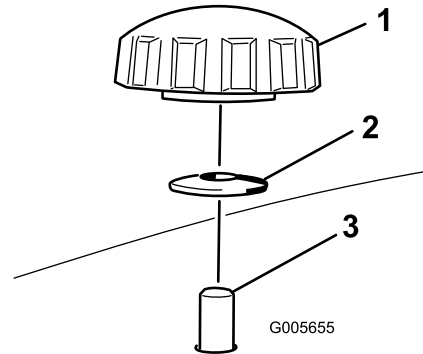
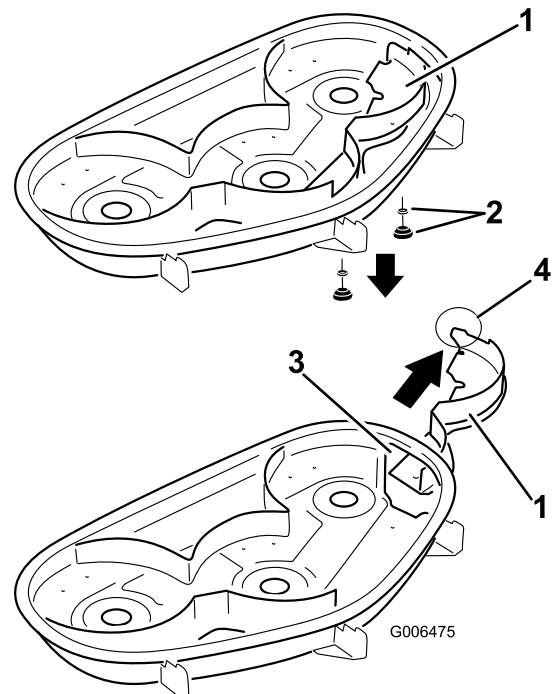

Figure 24
Figure 25
4. Remove the 2 knobs and curved washers that secure the right baffle to the mower as shown in Figure 24.
5. Remove the right baffle and lower the grass deflector over the discharge opening as shown in Figure 25 and Figure 24.
4. Slide the right baffle through the discharge opening and secure it using 2 knobs and curved washers (cupped side facing the mower) as shown in Figure 24 and Figure 25.